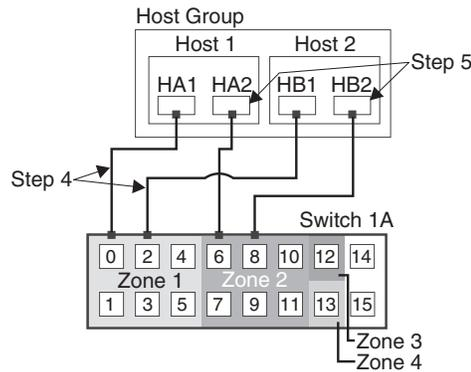

Figure 24. Host bus adapter connections to Fibre Channel switches
4. Connect the primary host bus adapter (Hx1) for each host at this site to an available port in Zone 1 of Switch 1, as shown in Figure 24.
5. Connect the secondary host bus adapter (Hx2) for each host at this site to an available port in Zone 2 of Switch 1 as shown in Figure 24.